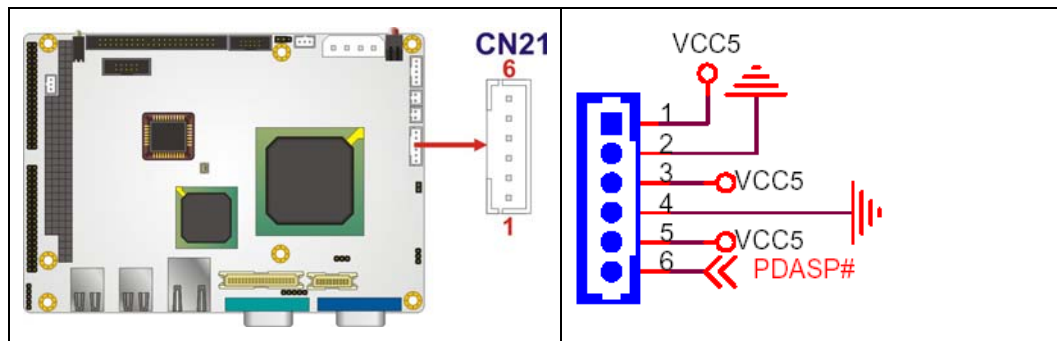

Figure 4-11: LED Connector Locations
- CN Location:** See Figure 4-11